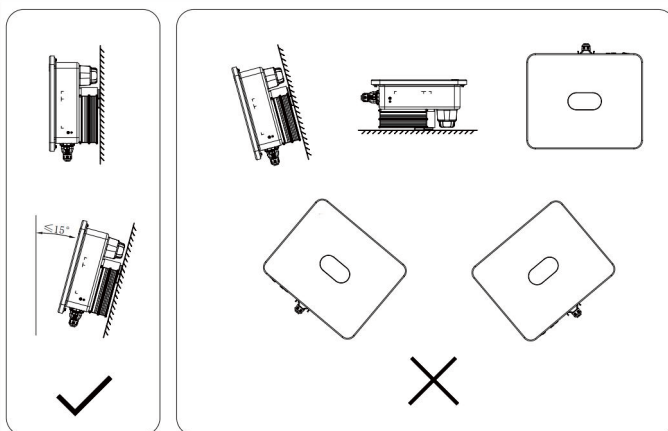

Fig. 2 Installation Location of Inverter
(2)The installation surface should be vertical. Refer to Figure 2.